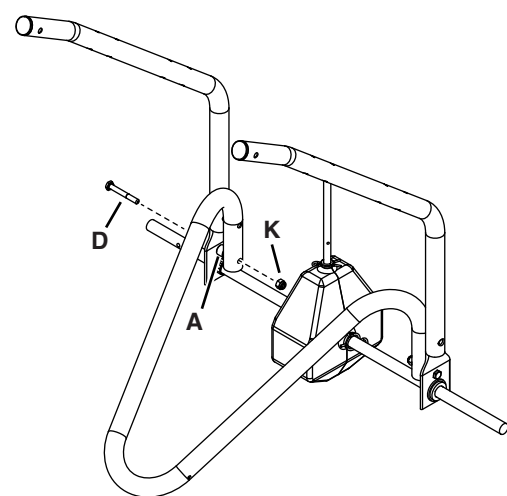

Figure 2
STEP 2: (SEE FIGURE 2)
- Install the stand tube (7) between the hopper support tubes as shown, using two 1/4" x 2" hex bolts (D), spacers (A), and 1/4" nylock nuts (K). Place the spacers between the hopper support tubes and the stand tube. **Do not tighten completely.**